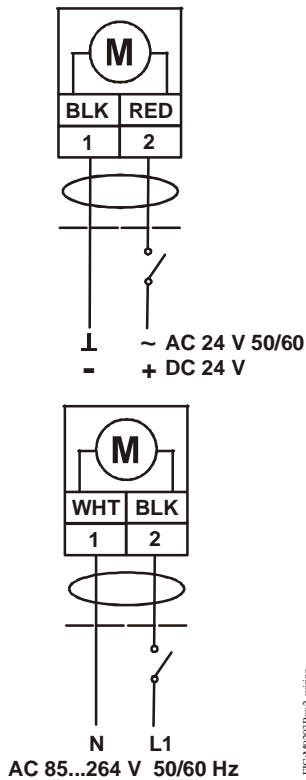
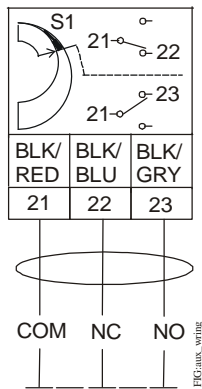

Figure 9: Control Wiring Diagrams
Figure 10: Auxiliary Switch Wiring Diagram
See Figure 9 and Figure 10 to wire the applicable M9203-Bxx-2(Z) Series model.